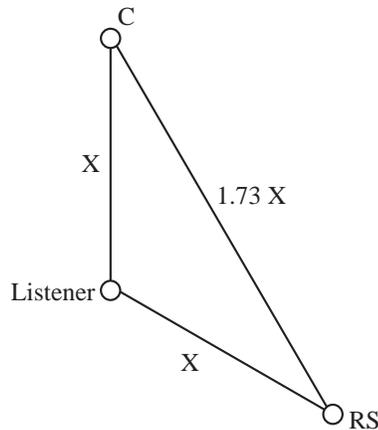

Figure 9.31: 5-channel setup: Step 4. Measure a triangle created by the C and RS loudspeakers and the listening position using the distances indicated.
Step 5. Marks the locations for the LS and RS loudspeakers using the triangle measurements shown on the right. See Figure 9.31.